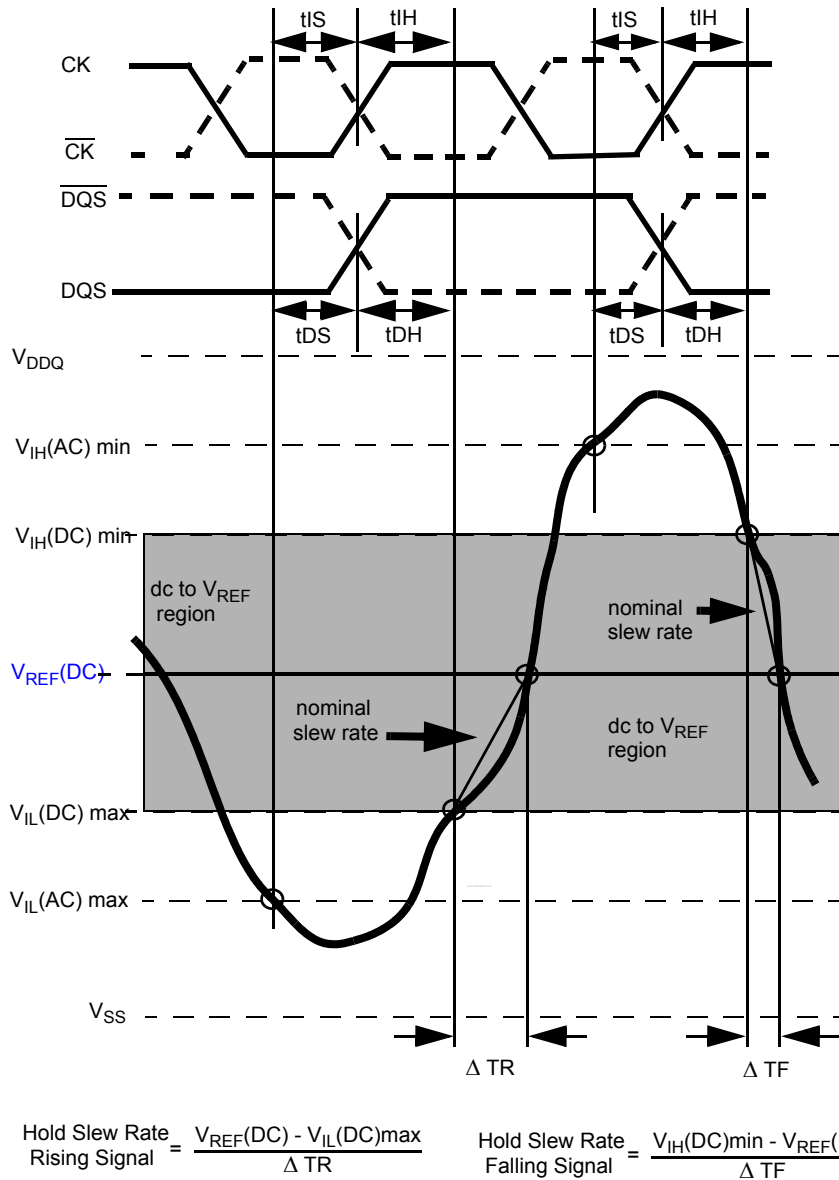
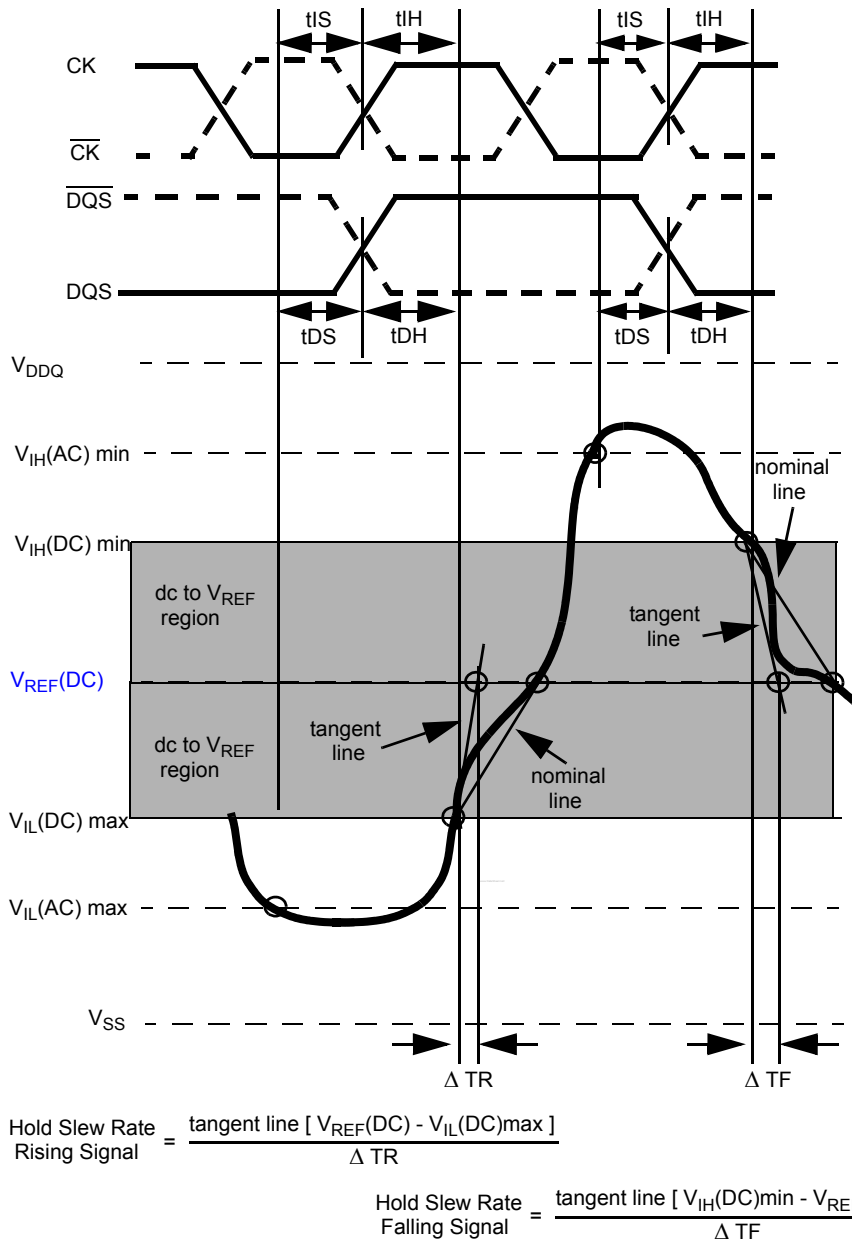

Figure 22. Illustration of nominal slew rate for hold time t_{DH} (for DQ with respect to strobe) and t_{IH} (for ADD/CMD with respect to clock).
Figure 24. Illustration of tangent line for hold time t_{DH} (for DQ with respect to strobe) and t_H (for ADD/CMD with respect to clock)
Hold (tIH) nominal slew rate for a rising signal is defined as the slew rate between the last crossing of V_{IL}(DC)max and the first crossing of V_{REF}(DC). Hold (tIH) nominal slew rate for a falling signal is defined as the slew rate between the last crossing of V_{IH}(DC)min and the first crossing of V_{REF}(DC). If the actual signal is always later than the nominal slew rate line between shaded 'dc to V_{REF}(DC) region', use nominal slew rate for derating value (see Figure 22). If the actual signal is earlier than the nominal slew rate line anywhere between shaded 'dc to V_{REF}(DC) region', the slew rate of a tangent line to the actual signal from the dc level to V_{REF}(DC) level is used for derating value (see Figure 24).